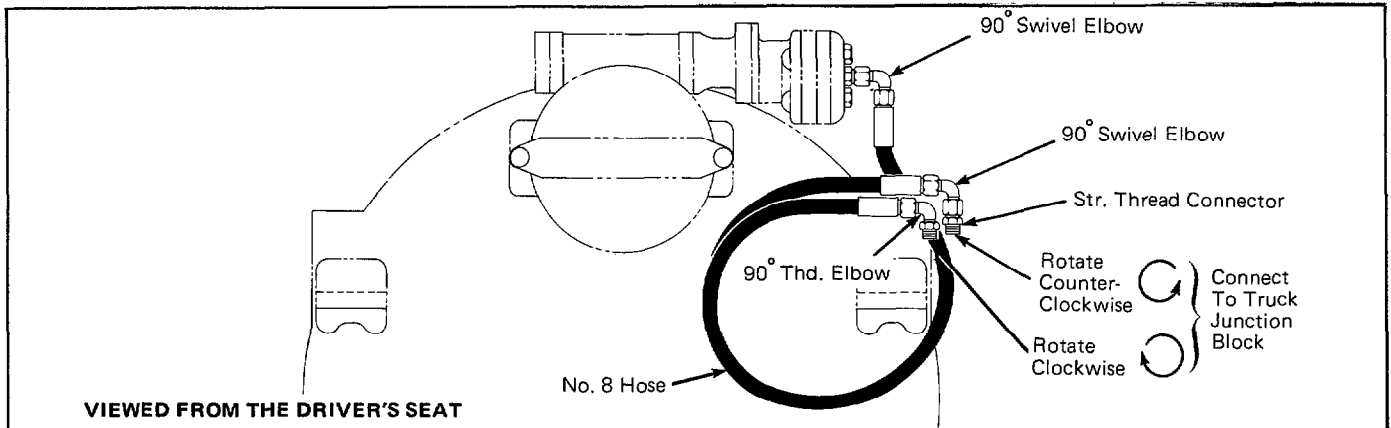

Figure 1. Plumbing Diagram for R3R, R4R, and R6R Rotators (Installation Kit C-663584)
1. Install the hydraulic lines to the **junction blocks** using the correct Cascade Attachment Installation Kit (C-663584 for R3R, R4R, and R6R; C-663597 for R7R) OR use hoses and fittings as shown in Figure 1 or 2.
2. Connect the hoses from the junction block to the rotator motor. See Figure 1 or 2.